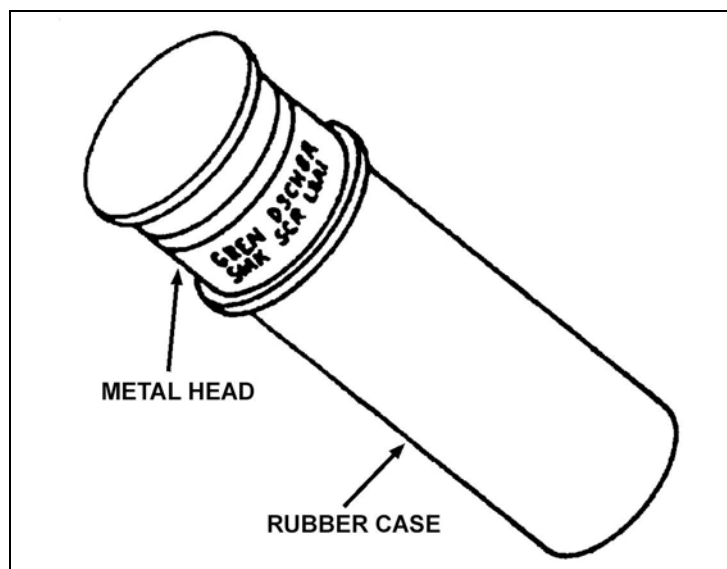

Figure 2-19. L8A1 or L8A3 red phosphorus smoke grenade.
a. **L8A1 or L8A3 Red Phosphorus Smoke Grenade.** The red phosphorus smoke grenades contain a mixture of red phosphorus and butyl rubber (Figure 2-19). The smoke bursts in the direction the turret is pointed. The bursting radius is a 105-degree fan, 10 meters high and 20 to 50 meters to the front. The smoke cloud lasts from one to three minutes, depending on wind speed and weather conditions. (TM 9-2350-252-10-2, TM 9-2350-284-10-2, TM 9-2350-284-10-2-1, and TM 9-2350-294-10-2-1 provide more operator information.)